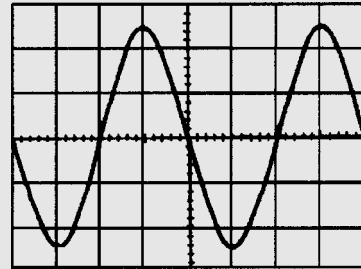

Figure RT3.1
- A conductor, 25 cm long is situated at right angles to a magnetic field. Determine the strength of the magnetic field if a current of 12 A in the conductor produces a force on it of 4.5 N. (3)
- An electron in a television tube has a charge of  $1.5 \times 10^{-19}$  C and travels at  $3 \times 10^7$  m/s perpendicular to a field of flux density  $20 \mu\text{T}$ . Calculate the force exerted on the electron in the field. (3)
- A lorry is travelling at 100 km/h. Assuming the vertical component of the earth's magnetic field is  $40 \mu\text{T}$  and the back axle of the lorry is 1.98 m, find the e.m.f. generated in the axle due to motion. (4)
- An e.m.f. of 2.5 kV is induced in a coil when a current of 2 A collapses to zero in 5 ms. Calculate the inductance of the coil. (4)
- Two coils, *P* and *Q*, have a mutual inductance of 100 mH. If a current of 3 A in coil *P* is reversed in 20 ms, determine (a) the average e.m.f. induced in coil *Q*, and (b) the flux change linked with coil *Q* if it is wound with 200 turns. (5)
- A moving coil instrument gives a f.s.d. when the current is 50 mA and has a resistance of  $40 \Omega$ . Determine the value of resistance required to enable the instrument to be used (a) as a 0–5 A ammeter, and (b) as a 0–200 V voltmeter. State the mode of connection in each case. (8)
- An amplifier has a gain of 20 dB. Its input power is 5 mW. Calculate its output power. (3)
- A sinusoidal voltage trace displayed on an oscilloscope is shown in Fig. RT3.1; the 'time/cm' switch is on 50 ms and the 'volts/cm' switch is on 2 V/cm. Determine for the waveform (a) the frequency (b) the peak-to-peak voltage (c) the amplitude (d) the r.m.s. value. (7)
- With reference to a p-n junction, briefly explain the following terms: (a) majority carriers (b) contact potential (c) depletion layer (d) forward bias (e) reverse bias (10)
- Briefly describe each of the following, drawing their circuit diagram symbol and stating typical applications: (a) zenor diode (b) silicon controlled rectifier (c) light emitting diode (d) varactor diode (e) Schottky diode (20)